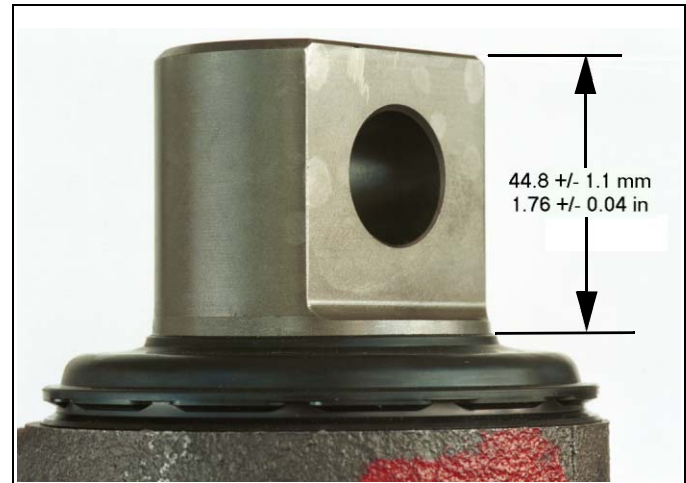

Figure 17-18
3. Make sure the outside diameter of the seal is completely seated. Pay special attention to the portion nearest the center-frame-bracket. See Figure 17-18 for the dimensions of a properly installed seal.